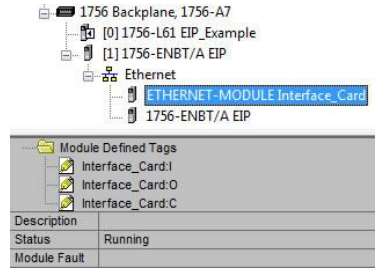

Figure 39: Online Module Status
- 7) Switch to online mode and download the project to the PLC. Verify that the newly-added inverter is available and operating correctly by observing any indications shown on the inverter’s icon. When the inverter’s icon is selected, its status and any available error messages will be displayed in the area below the project tree. Refer to Figure 39. Also confirm that the interface card’s “Network Status” LED should be solid green, indicating an “online/connected” state.